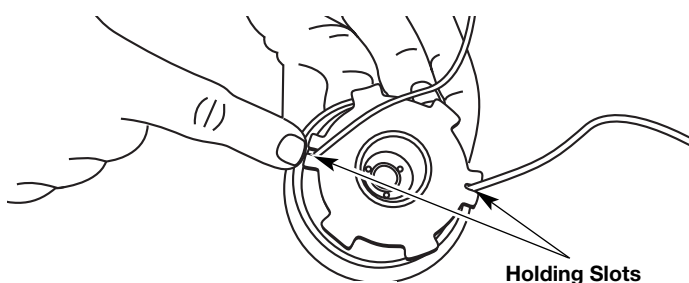

Fig. 38
12. Insert the ends of the line into the two holding slots (Fig. 38).